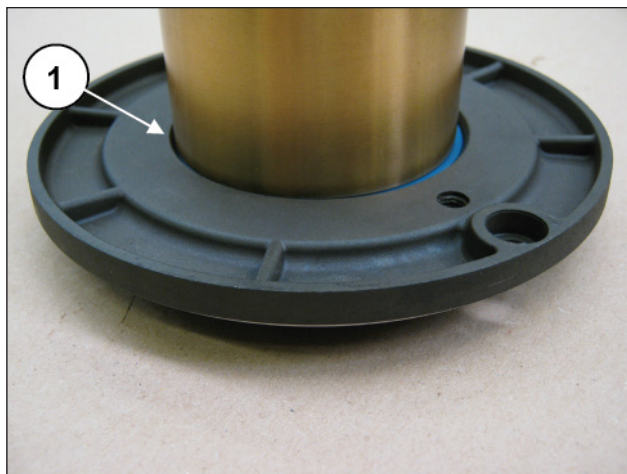

Fig. 137
Mount the radial seal ring onto the oil seal cover (pos. ①, Fig. 137) using a drift or equivalent tool (special tool code 27643500).